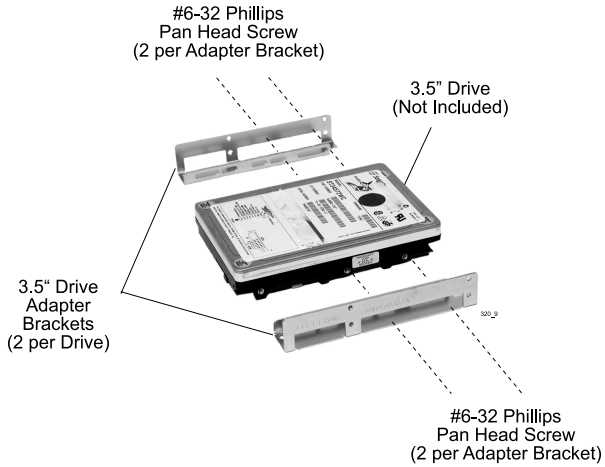
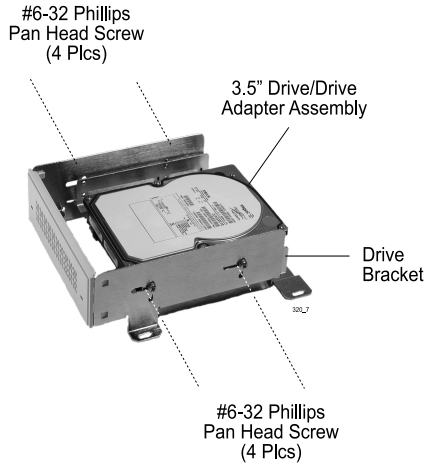

Figure 7: Attaching the 3.5" Adapter Brackets to the Drive
Figure 8: Installing a Drive into the Drive Bracket
2. Install the drive(s) into the drive bracket. If installing 3.5" devices into the DS320, attach the 3.5" adapter brackets (included) to the drives before installing them into the drive bracket (Figure 7). Drive(s) must be side-mounted to the drive brackets using the provided #6-32 Phillips screws (Figure 8).